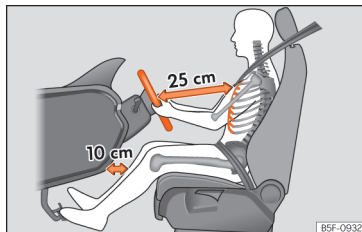

Fig. 83 The proper distance between driver and steering wheel.
»» **Fig. 83.**
- Adjust the driver's seat so that there is at least 25 cm distance between the centre of the chest and the centre of the steering wheel »» Fig. 83. If distance is less than 25 cm, the airbag system may not protect you properly.